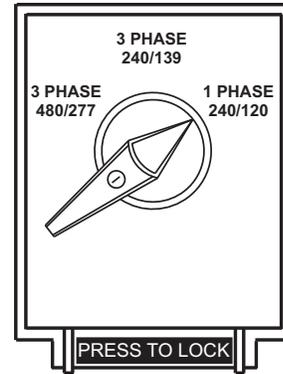

Figure 23. Voltage Selector Switch (Single-Phase 240/120-Volt Position)
1. Place the **Voltage Selector switch** in the **1-phase 240/120-volt position** as shown in Figure 23.